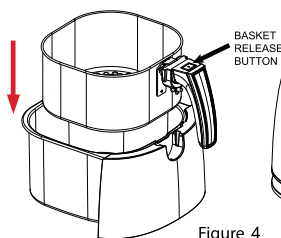

Figure 4
4. Insert Basket (8) back into the Pan (2) by inserting into the basket slot. (see Figure 4).